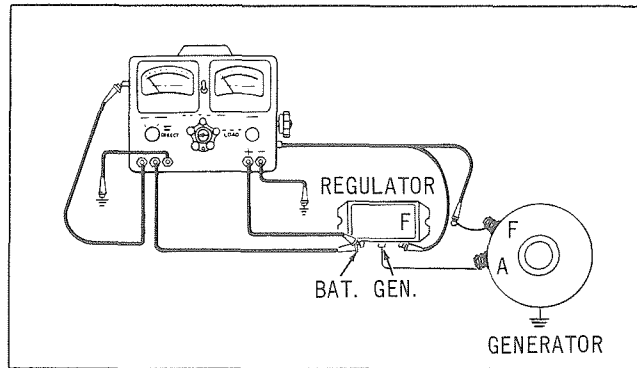

Figure 5I-12.
5. Slowly turn field control knob toward the "Direct" position to decrease resistance in generator field circuit. As the resistance is decreased, voltmeter reading will increase until a kickback of the voltmeter needle is observed. The highest voltage noted will be the cutout relay closing voltage. Repeat operation several times, each time turning the field control to "Open" position. If the closing voltage is not within specifications (see Fig. 5I-1), adjust according to manufacturer's Service Bulletin and retest.
E. TESTING VOLTAGE CONTROL UNIT SETTING (FIG. 5I-12)
(FIG. 5I-14)